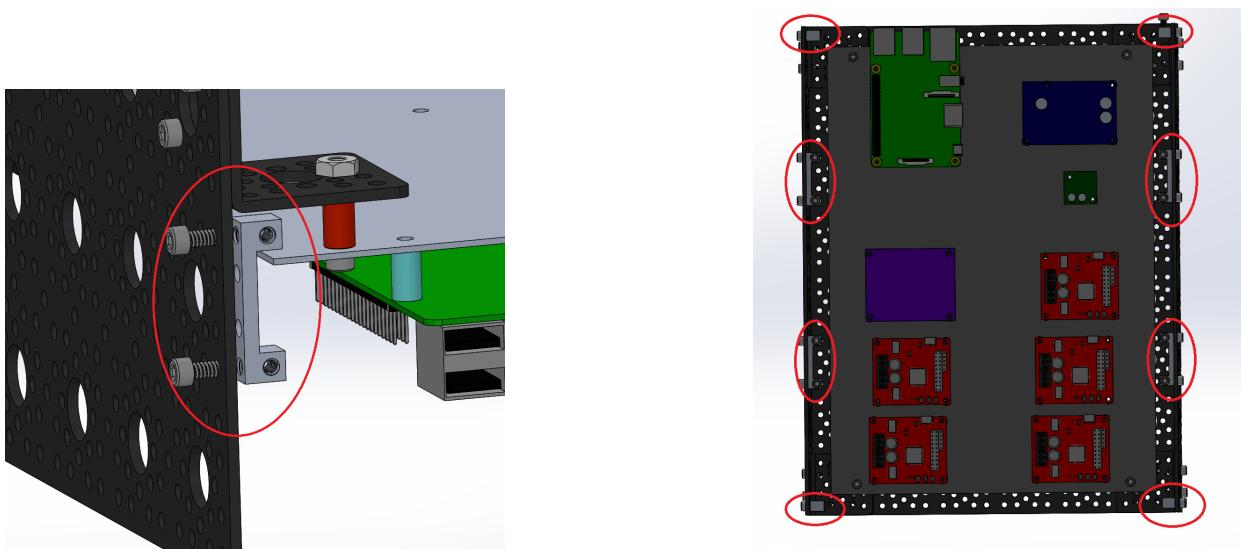

Figure 10: Dual Side Mount A locations
1. **Attach the Dual Side Mounts:** Put Dual Side Mounts A **S17**, and screws **B1** in the locations shown in Figures 10.